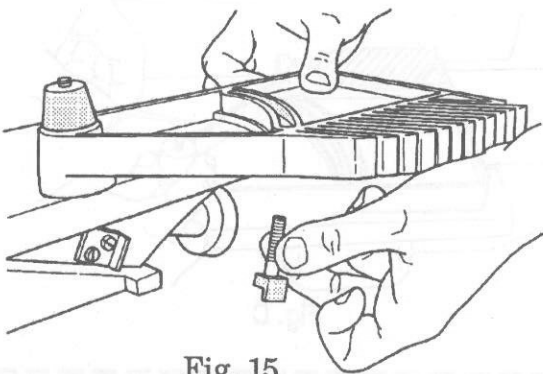

Fig. 15
24. Install the stop pin (14) in the feather guard by inserting its shaft through the slot in the guard, as in Fig. 15. The long, flat side of the stop pin (14) must face the outside of the feather guard "fingers".